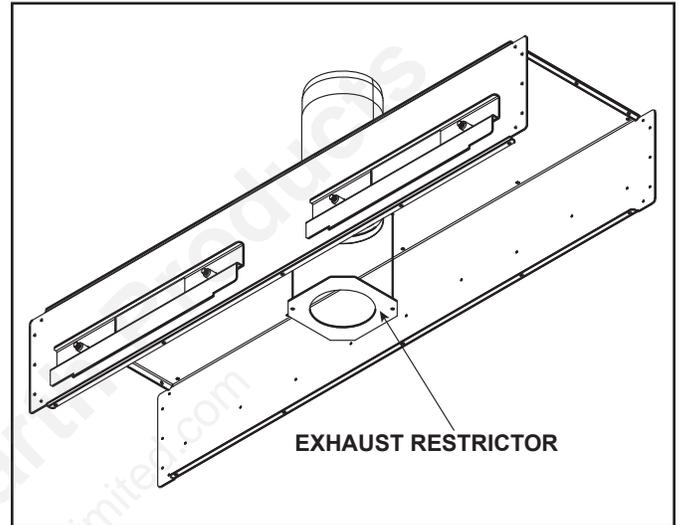

Figure 4.9 Exhaust Restrictor
1. Locate the two pilot holes in the inside firebox chamber as shown in Figure 4.9.
3. Use two 1/2 inch self-piercing screws to secure vent restrictor to firebox heat shield. See Figure 4.9.